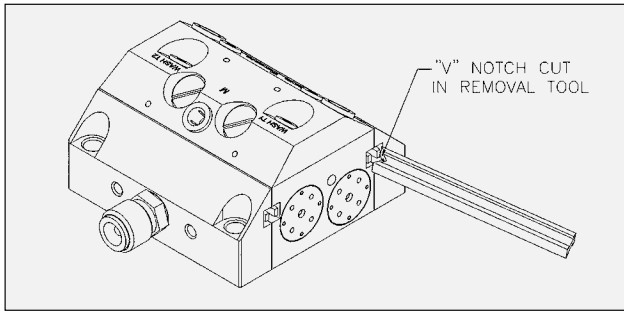

Figure 11: 78078-00 Clip Removal Tool
2. Using the clip removal tool (78078-00), push on the installed locking clip with the "V" cut as shown in Figure 11.